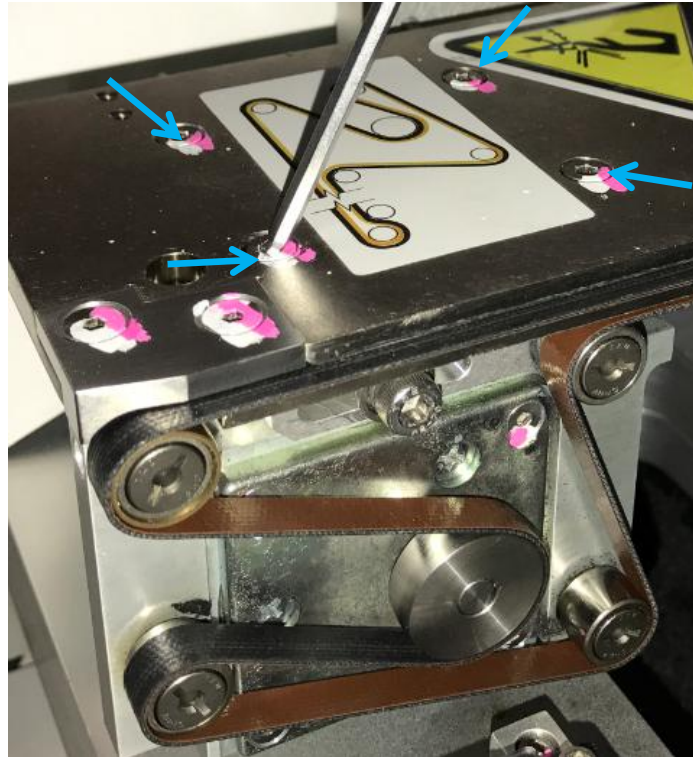

Figure 43 Fix Rail Mount Pulley Assembly
- b) Loosen 4 x Screws at Motor Pulley Assembly as below Figure 43